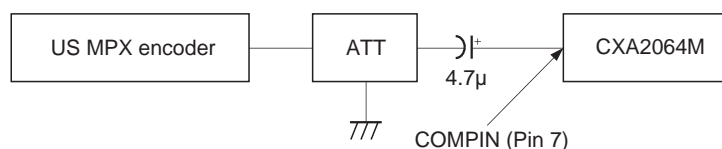

Fig. 1. Adjustment setup
- 1) Connect components as shown in Fig. 1.